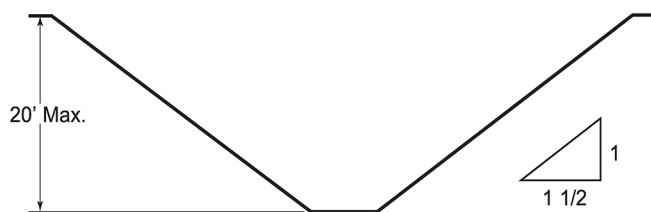

Figure 1. Slope of 1 1/2:1
- **Sloping and benching** are methods of cutting the sides of the excavation to accommodate support. Sloping cuts at an angle not steeper than 1 1/2:1 (see Figure 1), while benching creates one or a series of horizontal levels or steps.